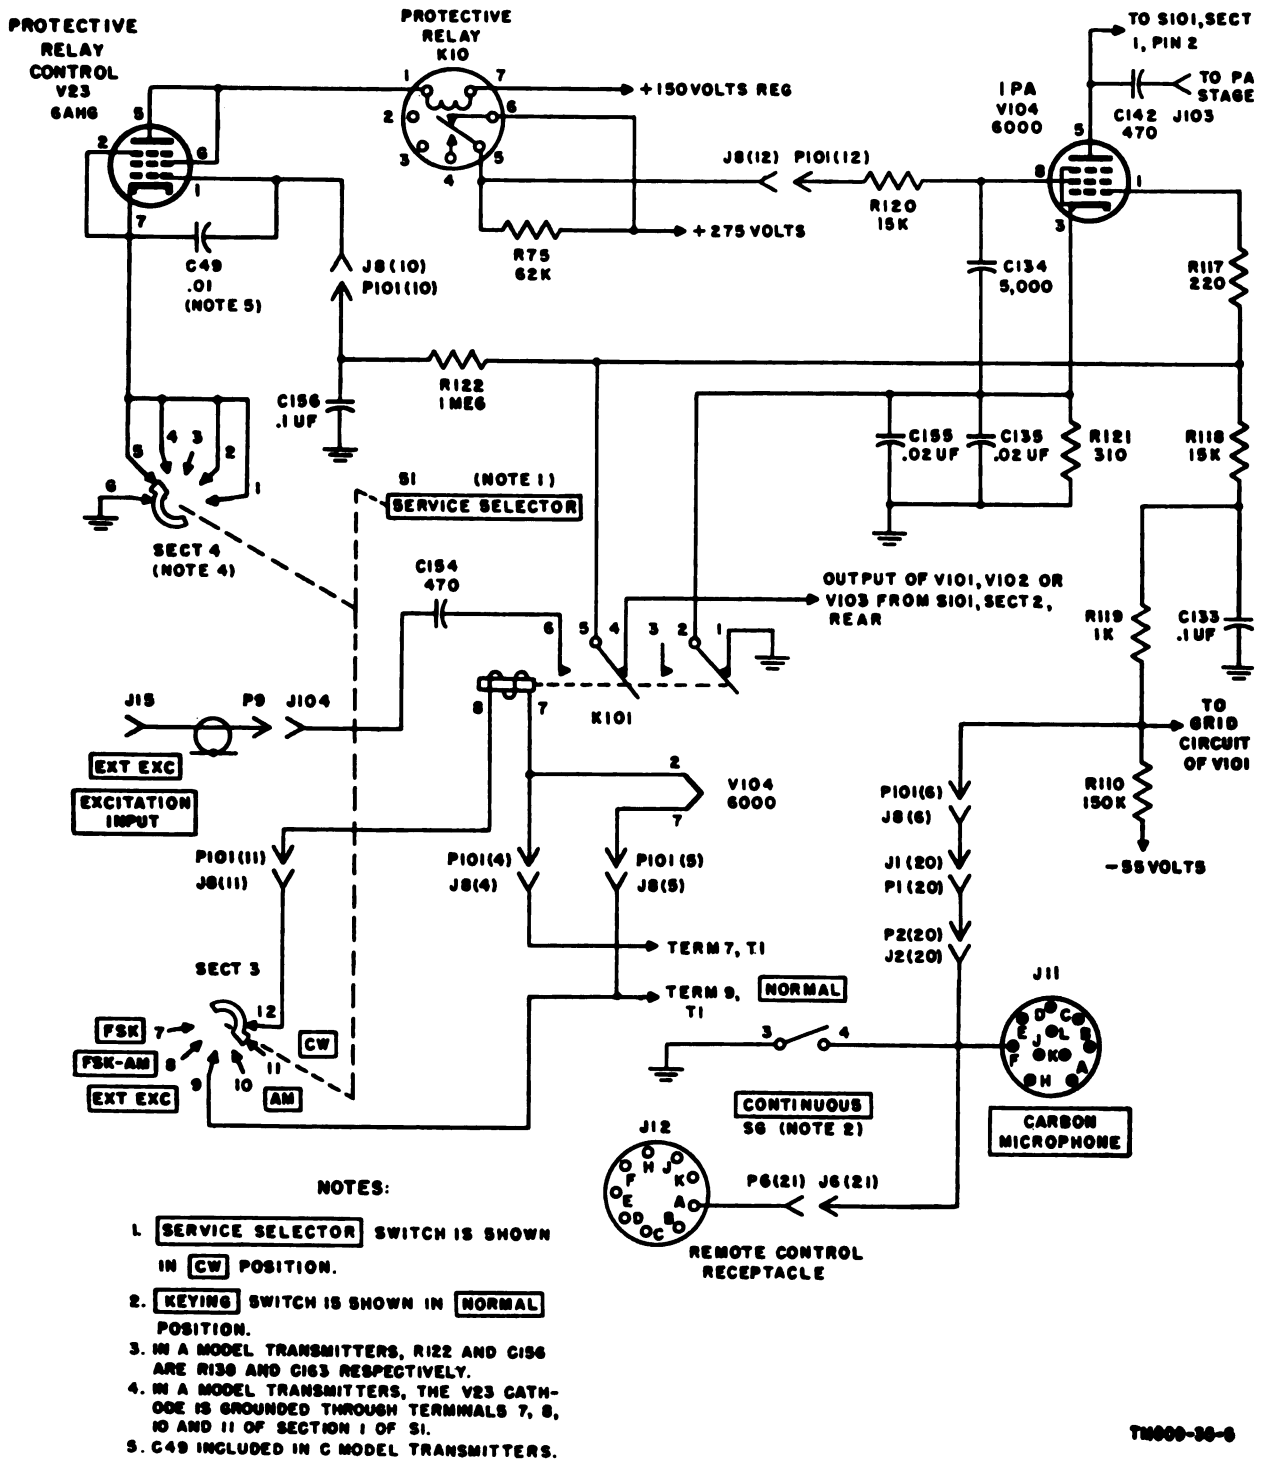

Figure 8. Intermediate power amplifier stage protective relay circuit (lettered model transmitters only).
c. Intermediate power amplifier V104 uses tube type 6000. In lettered models, the ipa stage is protected from drawing excessive current, when signal excitation is removed, by a protective clamping circuit. The clamping circuit consists of protective relay K10 and protective relay control tube V23 (fig. 8).
(as would be the case if switch S6, a handkey, or a push-to-talk switch were closed), plate current of V104 could rise to a dangerous value, and damage the tube. In lettered model transmitters, this possibility is protected against by protective relay control tube V23 and relay K10 (fig. 8) which function to reduce the screen voltage of V104. Control voltage for this circuit is obtained from the junction of resistors R117 and R118 in the grid circuit of V104 and is applied to the control grid of V23 through decoupling resistor R122 (R138 in the A model transmitter). This voltage varies from -55 volts (with the blocked-grid voltage applied to V101 and V104) to -3 volts (with the blocked-grid voltage removed) and depends on the amount of excitation applied to the control grid of V104. At -55 volts, V23 remains cut off (nonconducting) and the full screen voltage is applied from the $+275$ -volt source through normally closed contacts 5 and 6 of relay K10 and screen dropping resistor R120, allowing V104 to function normally. If loss of excitation to the grid of V104 occurs with the blocked-grid voltage removed, zero voltage will appear at the control grid of V104 and at the control grid of V23, allowing the protective relay control tube to conduct. Current flow in the plate circuit of V23 and the series coil of relay K10 causes contacts 5 and 6 of the relay to open, and resistor R75 is inserted in series with the $+275$ -volt line to screen dropping resistor R120. This reduces the screen voltage by approximately 50 per cent and limits V104 plate current to a maximum safe value of .060 ampere. Because cathode bias protects V104 in EXT EXC operation, this protective system is not necessary, and the cathode circuit of V23 is not completed. In all other modes of operation, the cathode of protective relay control tube V23 is grounded through section 4, contacts 1, 2, 4, and 5, of SERVICE SELECTOR switch S1. In the A model, the cathode of V23 is grounded through section 1, contacts 7, 8, 10, and 11. In late C model transmitters, capacitor C49 is connected between the grid and cathode of V23. This bypasses any stray RF which may be picked up in the V23 cathode line because of lead dress and length. The time constant circuit of isolating resistor R122 and capacitor C156 (R138 and C163 in the A model) prevents relay K10 from